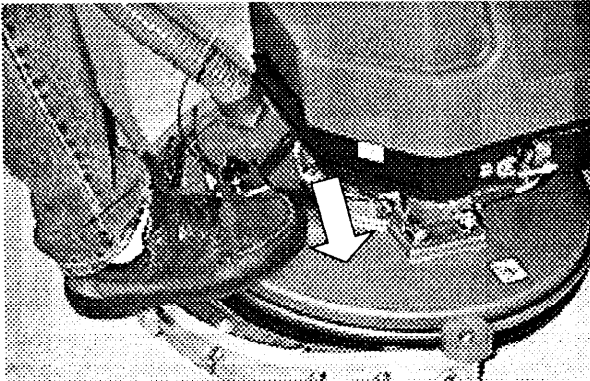

FIG. 11.
4. Step down on the pad shroud slowly, locking it into the down position. (Figure 11)